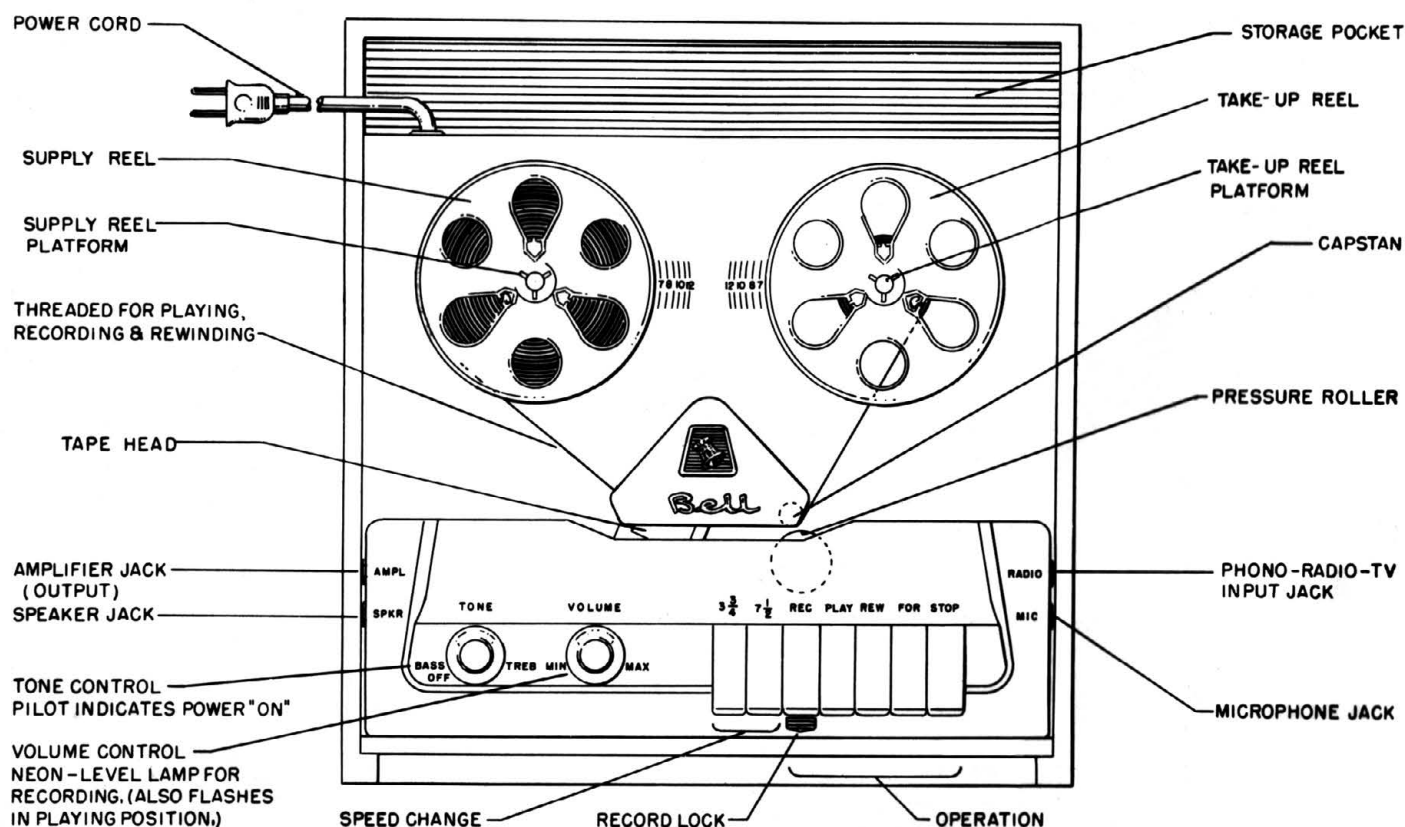

FIG. 1
REWIND - See Figure 1.
5. **CLEANING HEAD** - After five or six hours of operation, or if recordings seem weak in high frequencies, inspect the black shiny bakelite surface of the record-playback-erase head for pile-up of dirt and oxide. If dirty, clean with petroleum solvent or head cleaning solvent, (or carbon tet if used sparingly and wiped dry after applying). For cleaning, use pipe cleaners or Q-Tips soaked in the above solutions (See Fig. 1 for location of head). Do not touch delicate head surface with metal object.
6. **CLEANING CAPSTAN DRIVE** - After several hours operation it may be necessary to clean the capstan and rubber pressure roller (See Fig. 1 for location). Use above mentioned cleaners on rubber roller and wipe dry immediately. **DO NOT USE CLEANING FLUID ON METAL CAPSTAN AS IT MAY RUN DOWN INTO BEARING.** Wipe with clean cloth only.